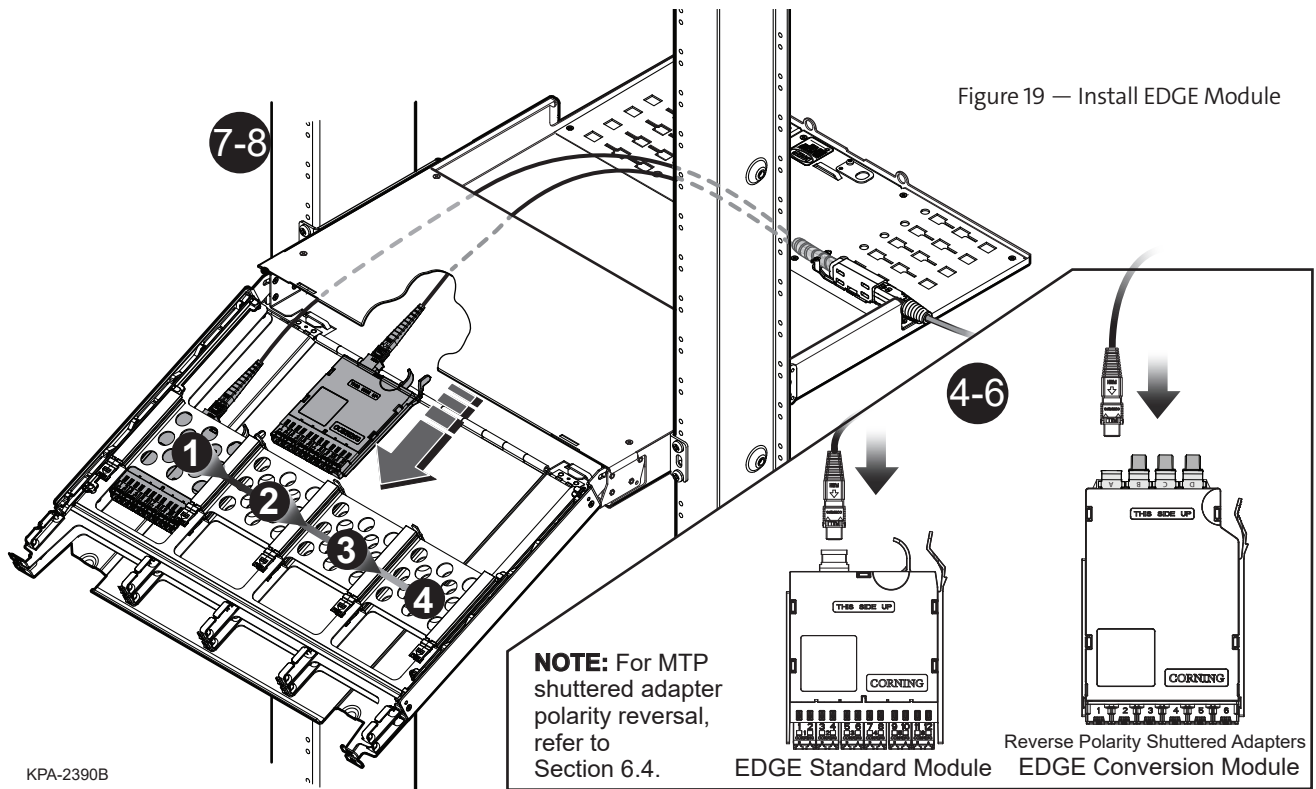

Figure 19 — Install EDGE Module
- Step 6:** Mate the MTP® connector(s) into the adapter(s) at the back of the module (Figure 19).
- Step 7:** Starting with the lower left corner (Tray 1, slot A, as seen from the front), insert the module from the rear until it locks into place (Figure 19).
- Step 2:** For the initial mating, remove dust caps from LC or MTP connectors on the jumpers cables by pulling on the dust cap while holding the connector body/housing/shroud (see page 12, Figure 16A). For the initial mating, do not clean or scope connectors. Corning CleanAdvantage connectors are shipped with an optimized dust cap to maintain cleanliness for the first use. NOTE: Only LC connectors are shown in Figure 19 and Figure 20.